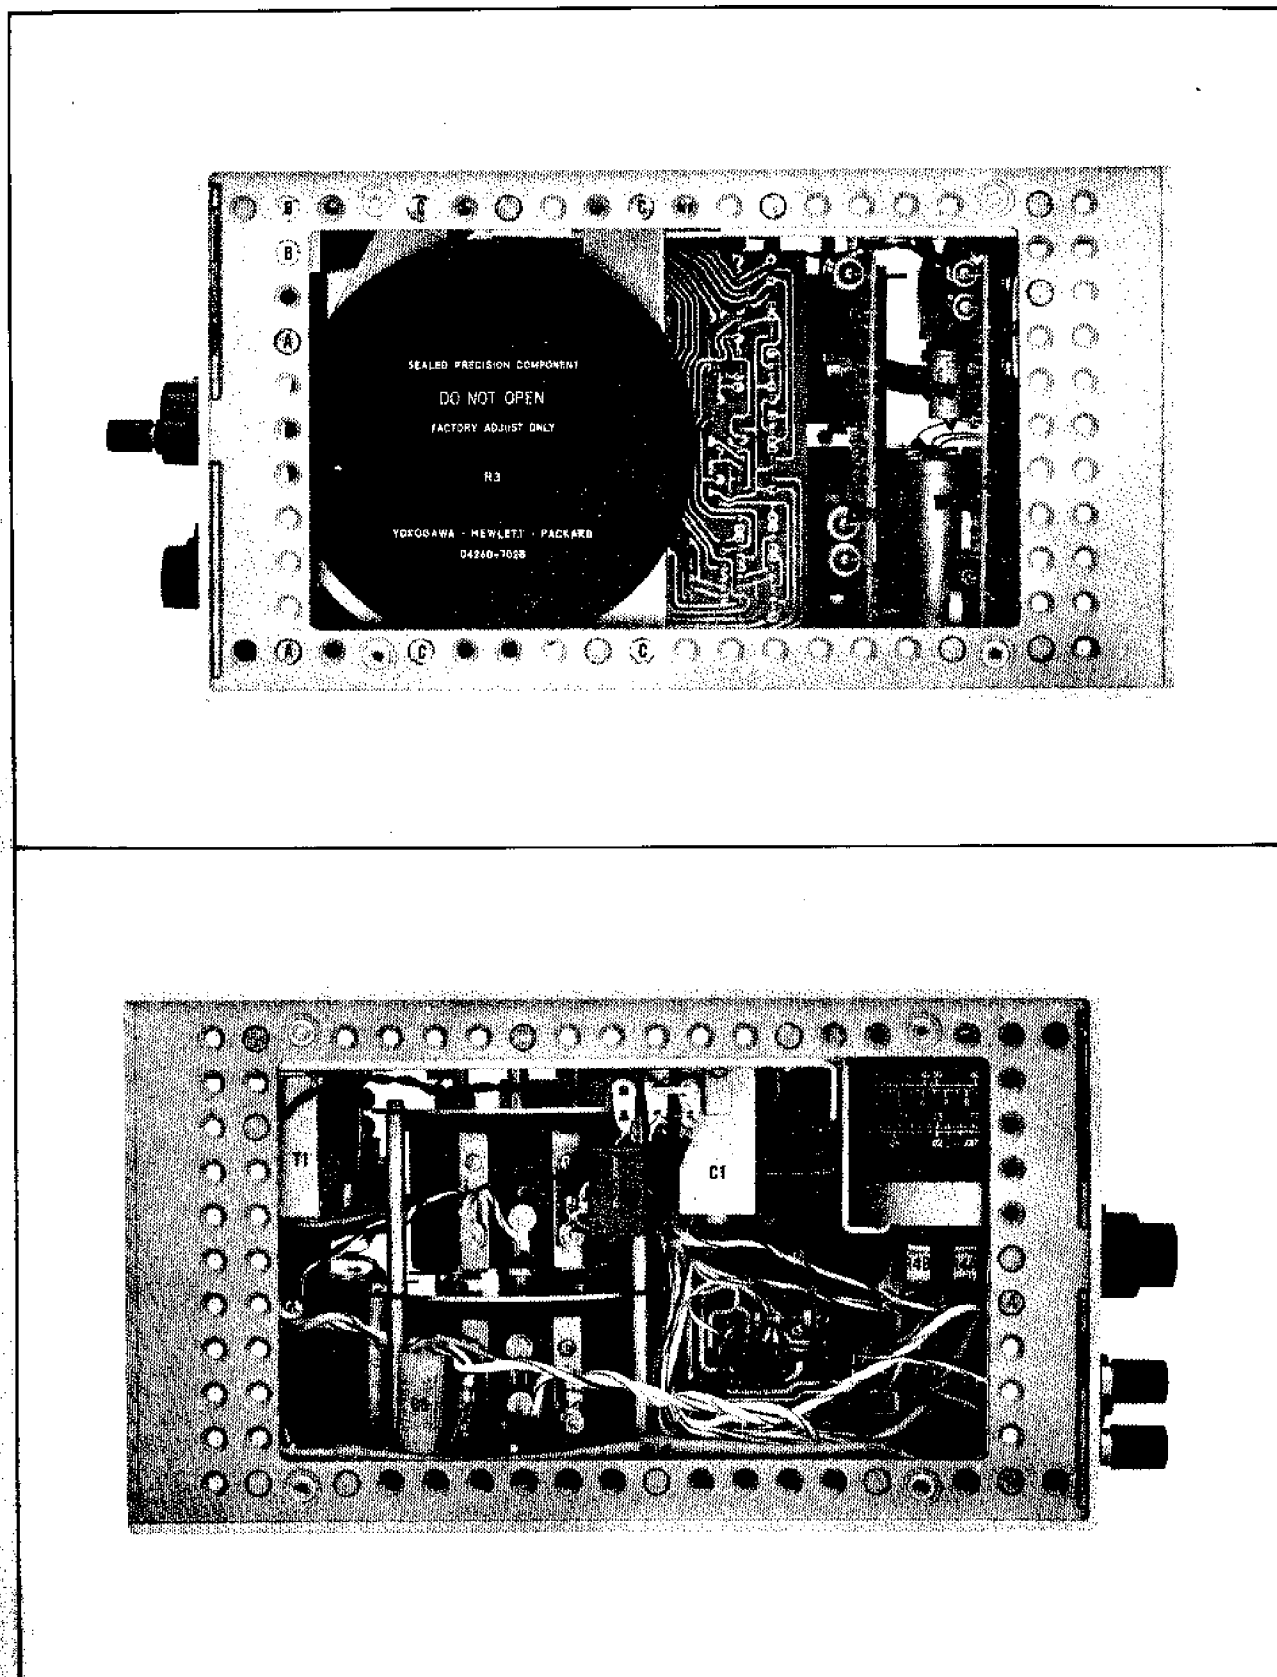

Figure 5-3. Right and Left Side Internal Component Location
5-16. Instrument covers are removed by taking out screws in each cover. To remove front panel, remove all front-panel knobs and side covers. In Figure 5-3 locate the four screws "A" which hold the side frames; loosen these screws. Carefully pull front panel towards front while holding side frames apart to release panel. Loosen deck side screws also.
5-20. CRL COUNTER. To remove this counter, remove two screws "B" in Figure 5-3 and lift out counter. Refer to Paragraph 5-27 (CRL ADJUSTMENTS) before installing counter.
5-21. CRL RESISTOR R3. For R3 replacement, remove CRL knob and four screws "C" in Figure 5-3.
d. Loosen screws "B" in Figure 5-3 and separate counter gear from gear train.